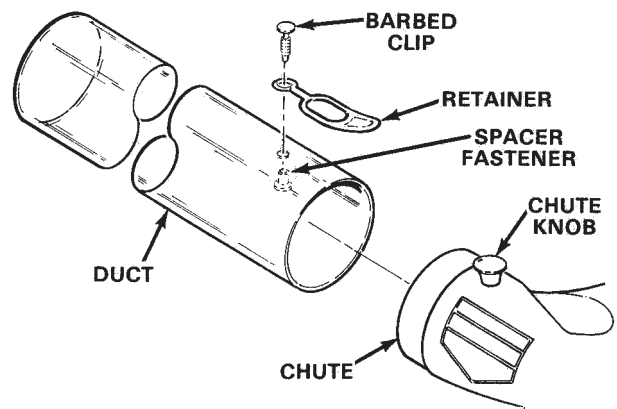

Figure 11
1. Secure retainer to duct with barbed clip and spacer fastener (Fig. 11).
2. Slide duct onto chute assembly, aligning duct retainer with chute knob. Hook retainer onto knob, securing assemblies (Fig. 11).